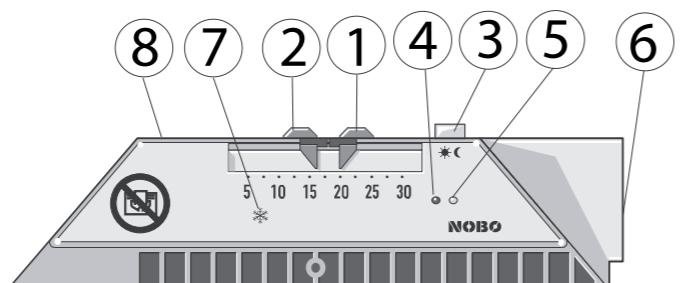

Fig. 1 / Abb. 1 / Kuva 1
2. CONTROL PANEL (fig. 1)
Set the desired temperature levels for comfort and economy periods. Use override button, fig.1 (3) to switch the heater to economy function when the central unit is programmed to comfort, and vice versa.
2. BEDIENFELD (Bild 1)
2. PANNEAU DE COMMANDE (fig. 1)
2. PANEL DE CONTROL (fig. 1)